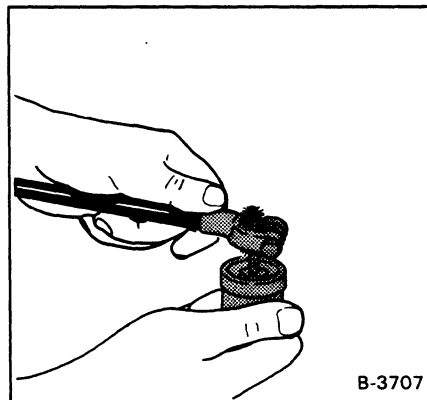

Fig. 1-28 Cleaning Battery Terminals
- (3) Clean the terminals (Fig. 1-28 and 1-29) on the new battery.
- (4) Install the new battery and install the holddown clamp.